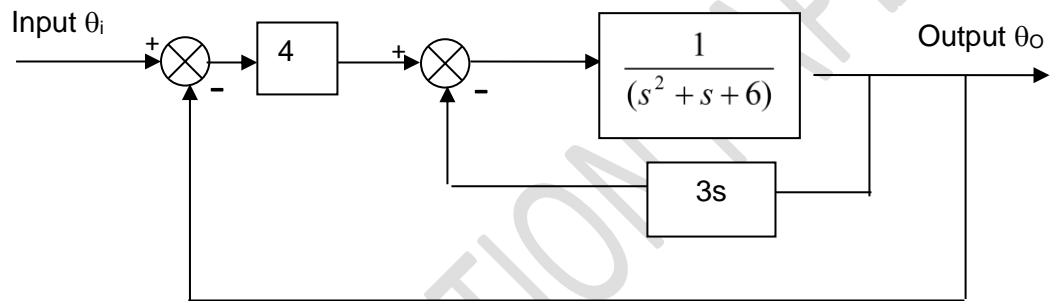

Figure Q5 A Hydraulic Control System
- (b) Figure Q5 shows a block diagram for a hydraulic control system.